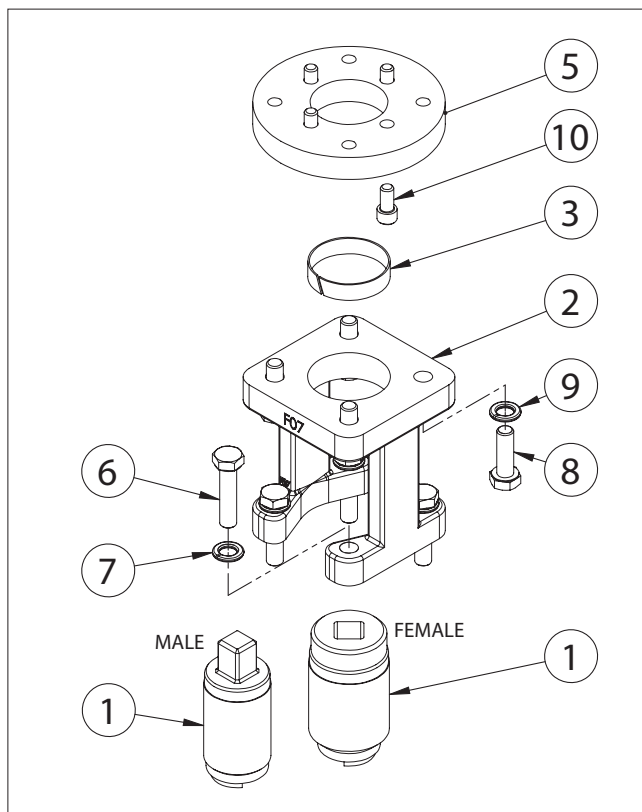

Figure 16. Linkage Assembly – Square Drive
**Male/Female Square Drive Actuators (Figure 16):** No coupling prep required.